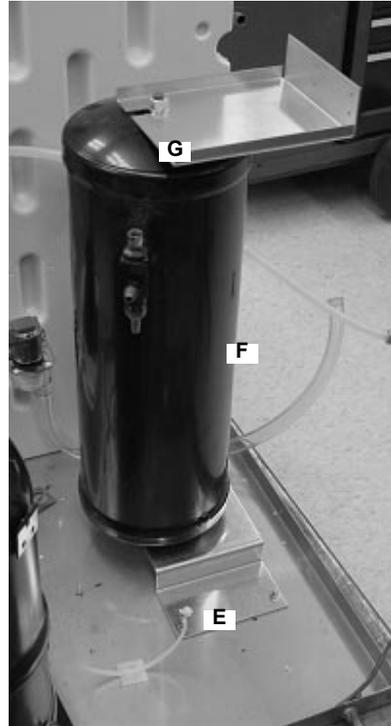

Figure 28.
Install the new top bracket (G) on the receiver with all flanges up (Figure 28).